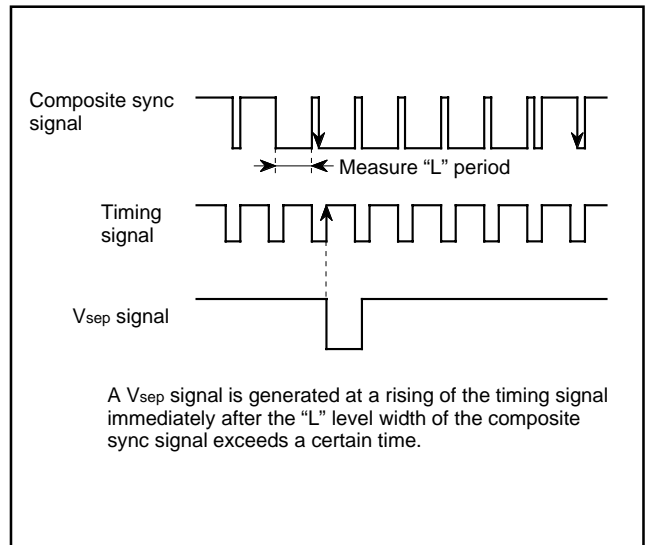

Fig. 8.10.6 V_{sep} Generating Timing (method 2)
- Method 2 The "L" level width of the composite sync signal is measured. If this width exceeds a certain time, it is detected whether a falling of the composite sync signal exits or not in the "L" level period of the timing signal immediately after this "L" level. If a falling exists, a V_{sep} signal is generated in synchronization with the rising of the timing signal (refer to Figure 8.10.6).
Figure 8.10.6 shows a V_{sep} generating timing. The timing signal shown in the figure is generated from the reference clock which the timing generating circuit outputs.